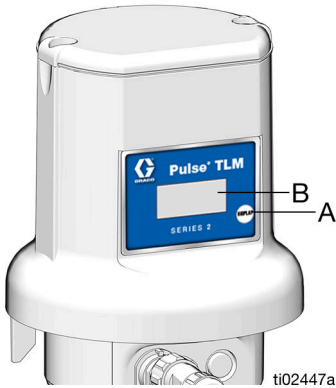

FIG. 7
Press and release the display button (A). Data appears on the display (B) (FIG. 7); each screen lasting a few seconds before going on to the next.
After a tank is refilled from an oil distributor, or a waste oil tank is emptied by a waste oil service provider, press the display button (A) (FIG. 7) on the TLM. This ensures the TLM will maintain the most current tank volume status.